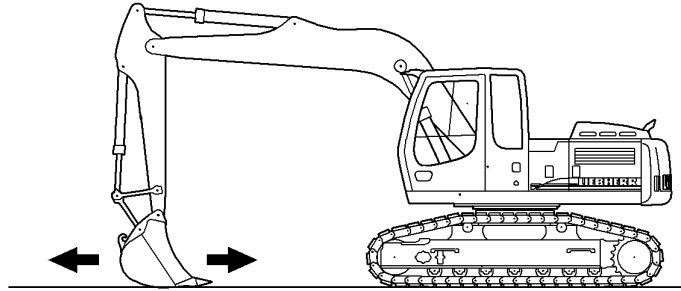

Fig. 3-123 Skimming
- ▶ To skim with a backhoestick bucket, lay this on the ground (see Fig. 3-123) and move the stick slowly forwards and backwards. Move the boom steadily up and down while the stick is moving.